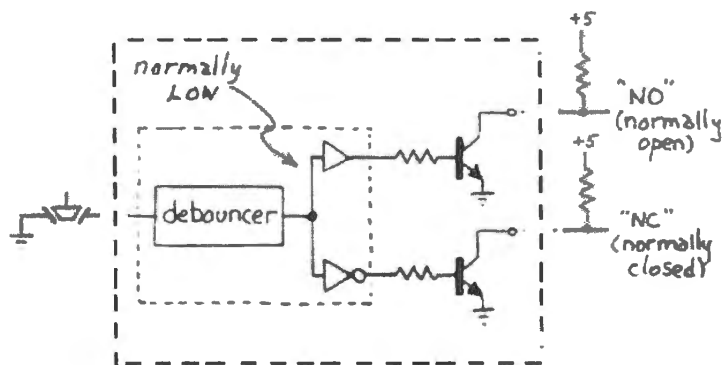

Figure 14L.2 Pullup required on open-collector output (debounced pushbuttons on PB503).
- two debounced pushbuttons (at the lower left corner of the breadboard, marked PB1, PB2) These deliver an *open collector* output, and that means that they are capable of pulling to ground *only*, never to the positive supply. To let such an output go to a logic *high*, you will need to add a *pullup* resistor, to 5V: see Fig. 14L.2.